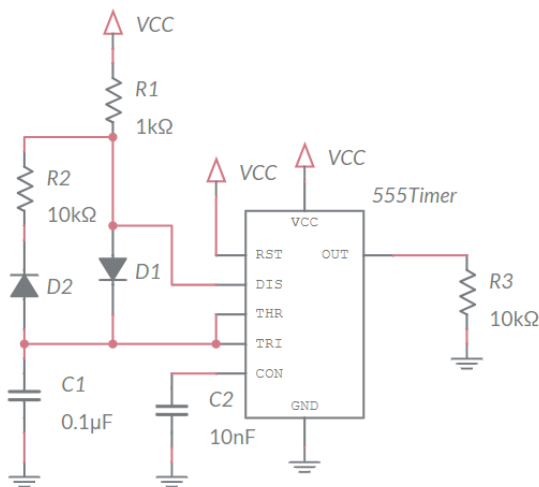
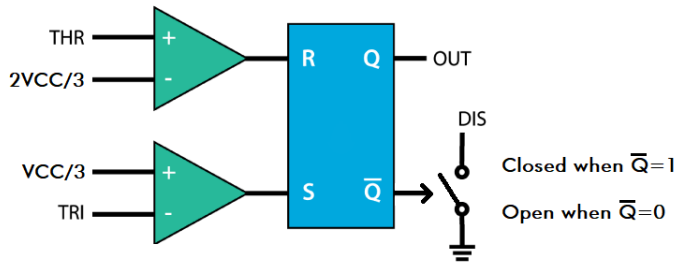
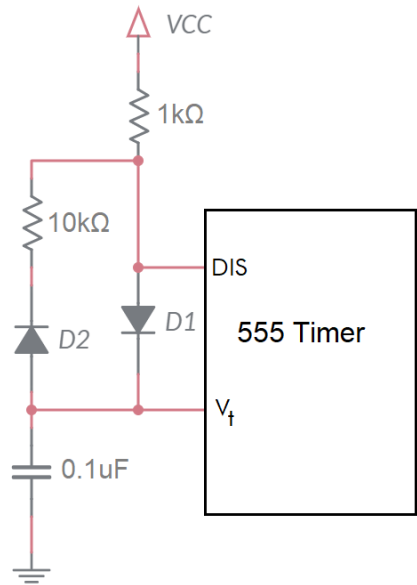
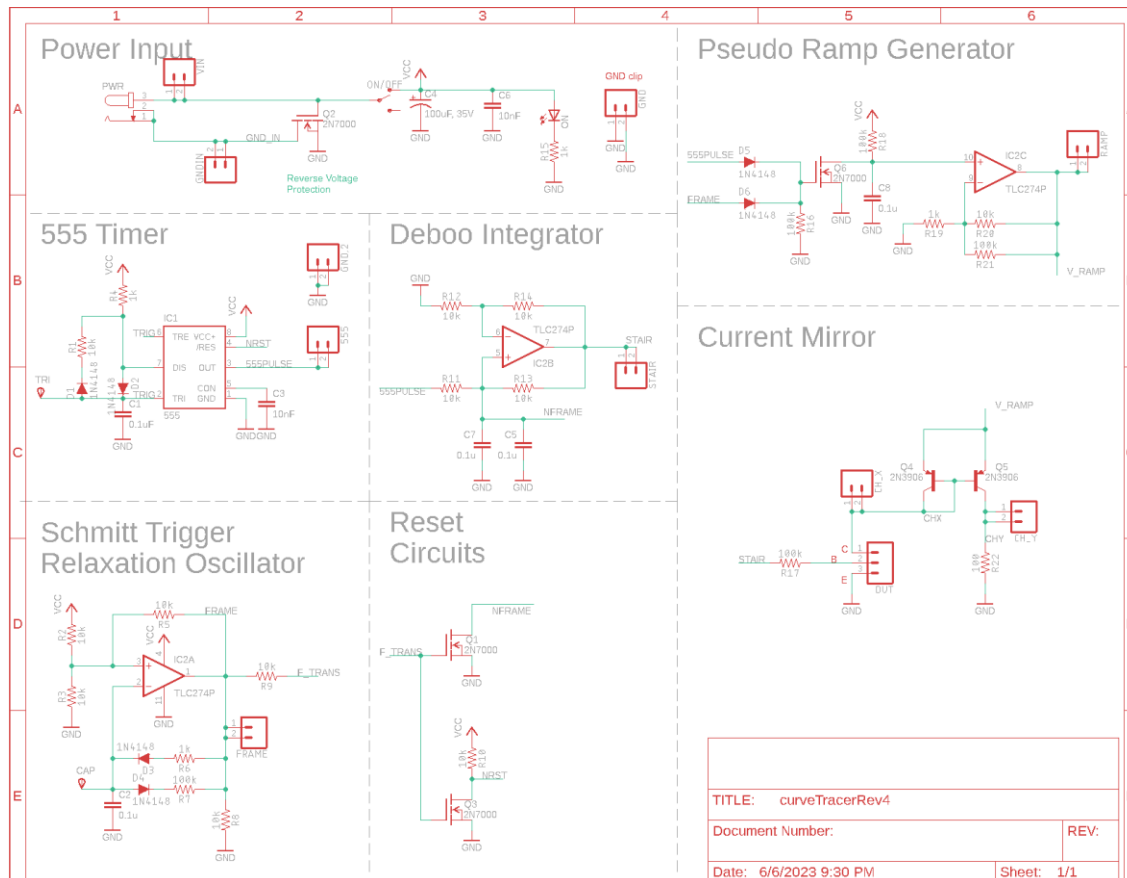

Figure 1: The output of the 555 Timer oscillates with a predictable period and duty cycle.
Figure 2: A highly simplified rendering of a 555 Timer's internals.
Figure 4: The circuit in Figure 1 with the 555 Timer replaced with the two signals examined in Figure 3.
Figure 8: The schematic for the BJT curve tracer.
We will start by examining the behavior of today's circuit and then use our understanding of the circuit to quantify the behavior of the circuit. The circuit shown Figure 1 is built around the 555 Timer, a chip seen since the early 1970s. Its use is now limited to niche applications; it is not something you are likely to use much in industry. That said, an analysis of the circuit Figure 1 will allow us to practice valuable skills.
In order to analyze the circuit in Figure 1, you first need to understand the internal operation of the 555 Timer chip. A highly simplified view of its internal structure is shown in Figure 2. You will
notice some of the pins shown in Figure 1 are not shown in Figure 2. These omitted pins do not affect the behavior of the circuit shown in Figure 1, so to simplify the explanation, they are omitted. Finally, note that VCC is the system voltage in Figure 1, for simplicity, we will assume throughout the lab that  $V_{CC} = 9V$ .
Let's start our exploration of Figure 2 by examining the pair of green triangles called comparators. We will call the upper comparator the "R-comparator" because it is connected to the R input of the blue box. Likewise, we will call the lower comparator the "S-comparator". Notice each comparator has a + and - input on its left, and its output on the right. The behavior of a comparator is described by the following two statements.
Use these definitions and the schematic in Figure 2 to answer the following two questions. Assume that  $V_{CC} = 9V$ , so state your answers in terms of numerical volts, not symbolically in terms of VCC.
Notice the THR and TRI inputs to the 555 Timer are tied together in Figure 1. We will call this common voltage  $V_i$  in the following text. Make note of this assignment now. Next, let's look at the blue box in the middle of Figure 2 known as an SR-latch. The input voltages to the SR-latch come from the comparator. When the comparator outputs VCC, the SR-latch interprets this as a logic 1. A comparator output of GND is interpreted by the SR-latch as logic 0.
The last element of Figure 2 is the voltage-controlled switch connected to the  $\bar{Q}$  output of the SR-latch. This switch opens and closes under the control of the  $\bar{Q}$  signal, hence the arrow head. When  $\bar{Q} = 1$ , the switch is closed, connecting the DIS pin to ground. When  $\bar{Q} = 0$ , the switch is open, leaving the DIS pin “floating”, not connected to any voltage. In reality, this voltage-controlled switch is an NPN bipolar junction field effect transistor. However, since we have not studied them, I have replaced it with something more intuitive.
3. Now, let’s summarize our understanding of the components in Figure 2 to complete Figure 3. In this figure, the vertical axis represents the voltage of  $V_t$  (the common voltage of the TRI and THR pins in Figure 1). The voltage range of  $V_t$  is split into 3 ranges, 9V-6V, 6V-3V, and 3V-0V. For each of these ranges:
With our new understanding of the 555 Timer, let’s return to the circuit shown in Figure 1 so that we can understand the role of the external components in the operation of the circuit. We will approach this question by replacing the 555 Timer with the  $V_t$  and DIS signals examined in Figure 3. The resulting circuit, shown in Figure 4, contains resistors, capacitors, a 555 Timer, and D1, D2, diodes. We will study diodes in much more detail later, but for now, consider them as circuit elements allowing current to flow in one direction as indicated by the triangle. So, for example, D1 will only allow current to flow downwards and D2 will only allow current to flow upwards.
Now, you will use the information from Figure 3 to determine to describe what the external circuit in Figure 4 functions like as  $V_t$  changes. Complete the sentence or write an expression for each of the bulleted items in questions 4 and 5. When two **bold** choices are separated by a “/”, replace them with the correct answer. Fill in underlines with values.
4. Determine the circuit behavior in Figure 4 when  $V_t$  is between 0V-3V.
5. Determine the circuit behavior in Figure 4 when  $V_t$  is between 6V-9V.
This week, you will be soldering in the components associated with the POWER INPUT, 555 TIMER subsystems shown in the Figure 8 schematic. It is important you do not solder in any of the other components in any of the other subsystems. This lab document contains cursory coverage of the assembly process. You can find much more detail in the Assembly Guide posted on Canvas.
The POWER INPUT area of the schematic in Figure 8 enables you to supply power to the BJT curve tracer board from either an power jack or through the VIN and GND terminals. A SPDT slide switch allows the user to turn the BJT curve tracer on or off while leaving the power input connected. An indicator LED confirms the BJT curve tracer is powered on when it is illuminated. A pair of capacitors smooths out the power delivered to the BJT curve tracer. Finally, a MOSFET disconnects the power input if you accidentally reverse the positive and negative power leads. You will learn more about this MOSFET in a later lab.
The 555 TIMER subsystem in Figure 8 is identical to the circuit analyzed in in Figure 4.
Most of the parts in this schematic have a designator and a value. The designator is a letter followed by a number. The designator letter tells you what type of part it is, “R” for resistor, “C” for capacitor, etc. The designators on the PCB match those on the schematic in Figure 8. This provides you with a means to find a part. You should take a moment to notice parts which are logically related in the schematic are physically proximal on the PCB.